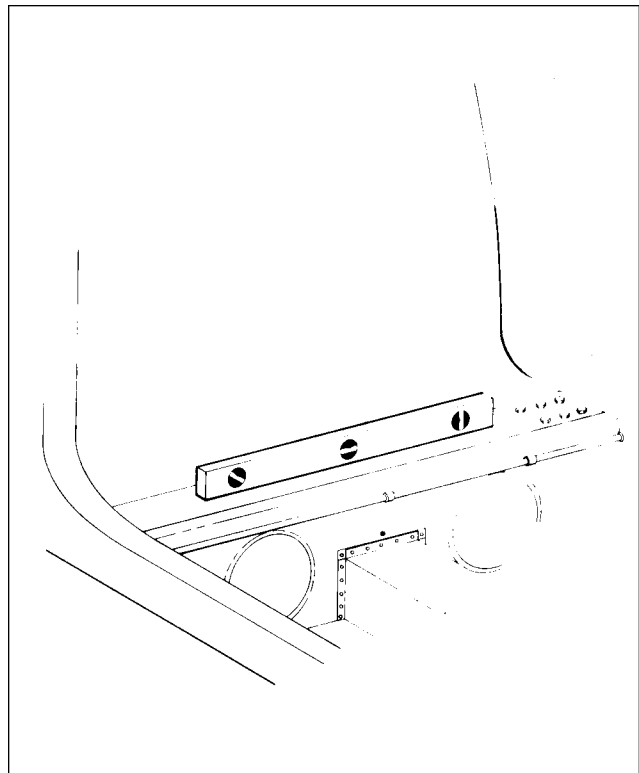

Figure 8-3. Leveling Laterally
2. To laterally level the airplane, place a level across the spar box assembly located under the rear seats. (Refer to Figure 8-3.) Raise or lower one wing tip by deflating the appropriate tire on the high side of the airplane or adjust either jack until the bubble of the level is centered.